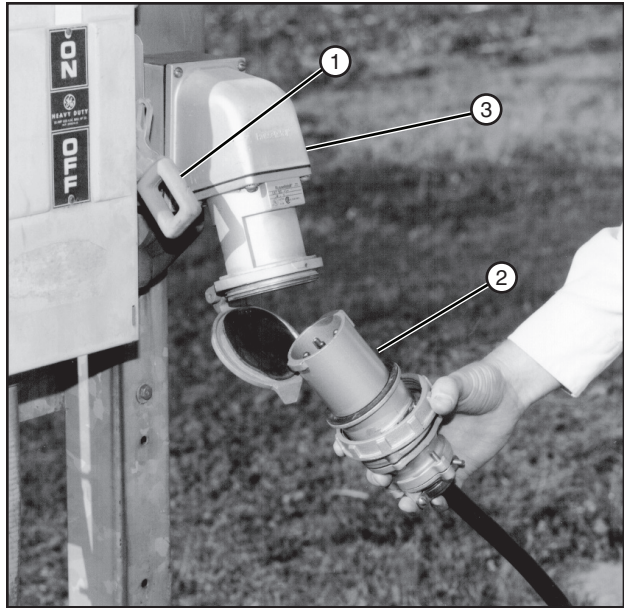

Figure 58-1 1. Service Disconnect - OFF
18. With the service disconnect in the OFF position, plug the power plug into the receptacle. See Figure 58-1.